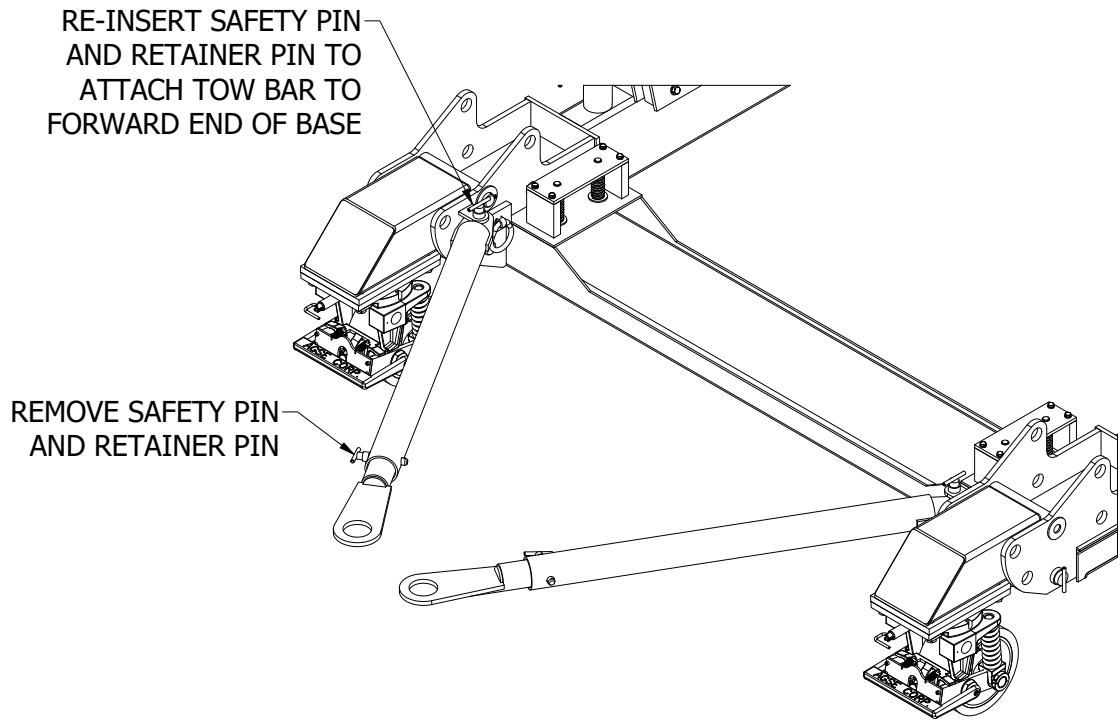

Figure 4.4-4
- 4). Rotate each tow bar assembly outward. (Figure 4.4-4).